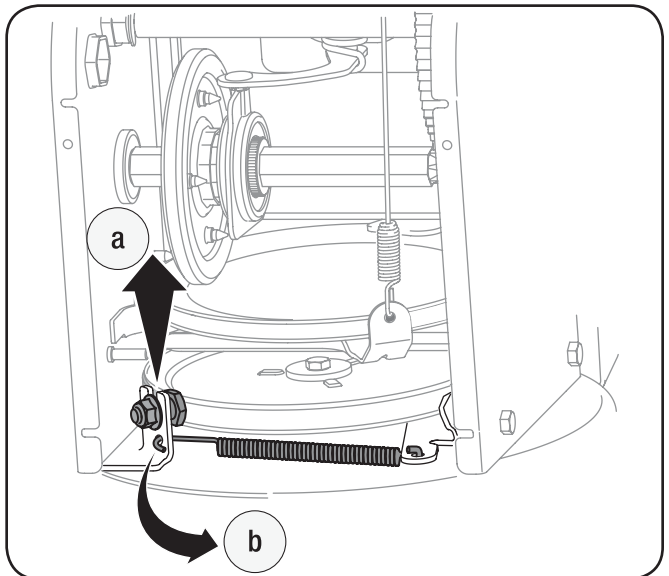

Figure 8-4
6. Remove the belt as follows. See Fig. 8-4.